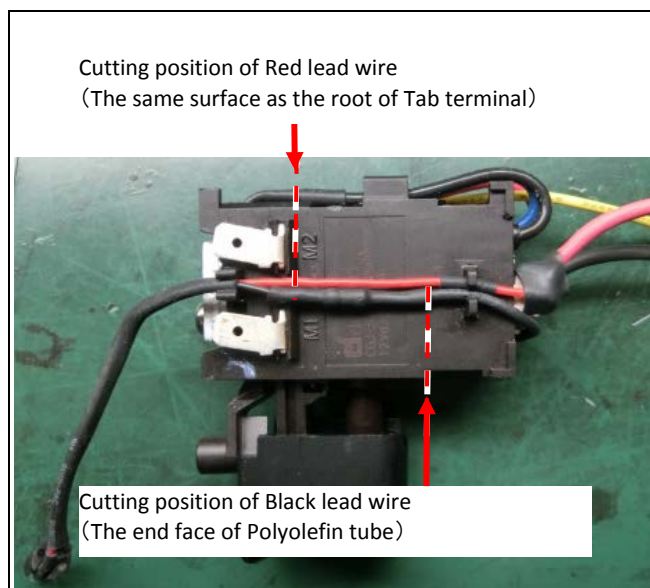

Figure 24
- When repairing, put terminals in the designated position shown in Figure 24. (Cut lead wires if necessary.)